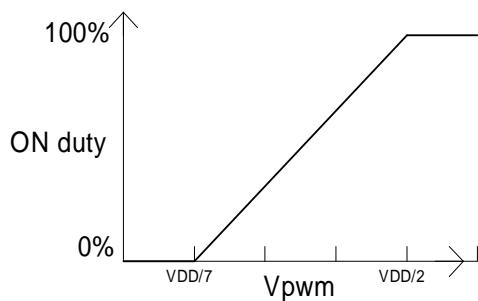

Fig.4
Applying a constant(DC) voltage to the PWM pin and the FD036 will generate PWM pulses internally with the "ON" H/(L+H) duty cycle ratio according to the diagram below(Fig.4), which can be utilized by the user to control the speed of the motor. The rotation speed will be higher if the voltage applied to the PWM pin is higher.